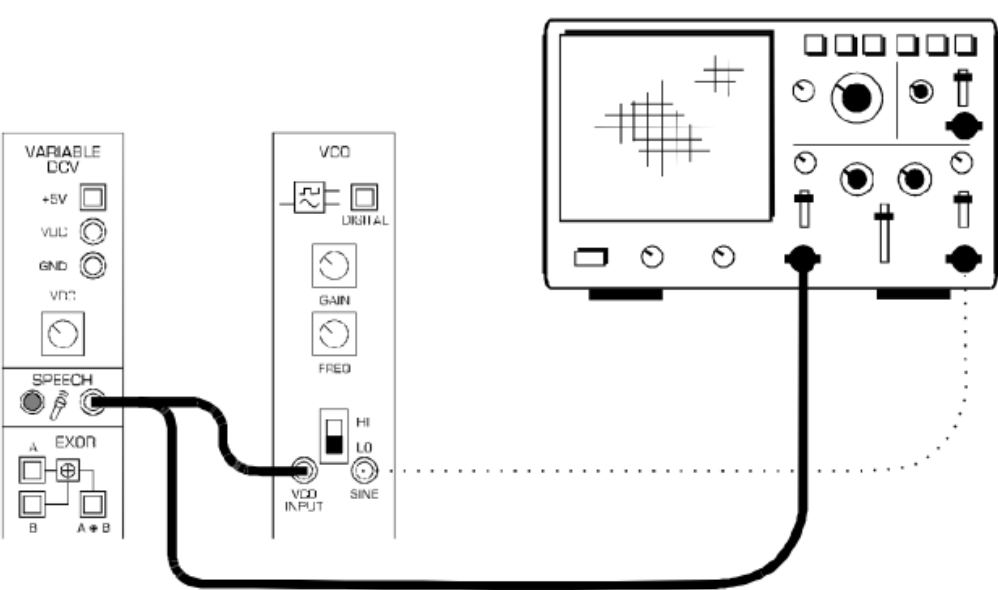

Figure 22:
11. Next, modify the setup as seen in Figure 22 in order to generate an FM signal using speech.